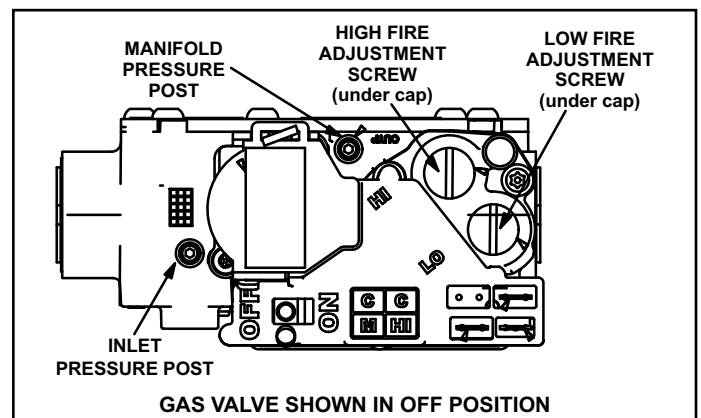

Figure 1. White Rogers Gas Valve
2. Remove the access panel. Move the automatic gas valve switch to OFF. See Figure 1.
6. Move the switch on the gas valve to OFF. Do not force the switch. See Figure 1.
7. Wait five (5) minutes for any gas to clear out. If you then smell gas, STOP! Immediately call your gas supplier from a neighbor's phone. Follow the gas supplier's instructions. If you do not smell gas, go to the next step.
An inlet pressure post located on the gas valve provides access to the supply pressure. See Figure 1. Back out the 3/32 hex screw one turn, connect a piece of 5/16 tubing and connect to a manometer to measure supply pressure. Check the unit on high fire. On multiple unit installations, check the unit separately and with the other units operating.
A manifold pressure post located on the gas valve provides access to the manifold pressure. See Figure 1. Back out the 3/32 hex screw one turn, connect a piece of 5/16 tubing and connect to a manometer to measure manifold pressure. To correctly measure manifold pressure, the differential pressure between the positive gas manifold and the negative burner box must be considered. Furnace should operate at least 5 minutes before checking manifold pressure.
4. After allowing unit to stabilize for 5 minutes, record low fire manifold pressure and compare to value given in Table 1. If necessary, make adjustment. Figure 1 shows location of low fire adjustment screw.
5. Repeat on high fire and compare to value given in Table 1. If necessary, make adjustment. Figure 1 shows location of high fire adjustment screw.
A manifold pressure post located on the gas valve provides access to the manifold pressure. See Figure 1. Back out the 3/32 hex screw one turn, connect a piece of 5/16 tubing and connect to a manometer to measure manifold pressure.
1. Connect test gauge to manifold pressure post (Figure 1) on gas valve.
4. If necessary, make adjustments. Figure 1 shows location of high fire and low fire adjustment screws.